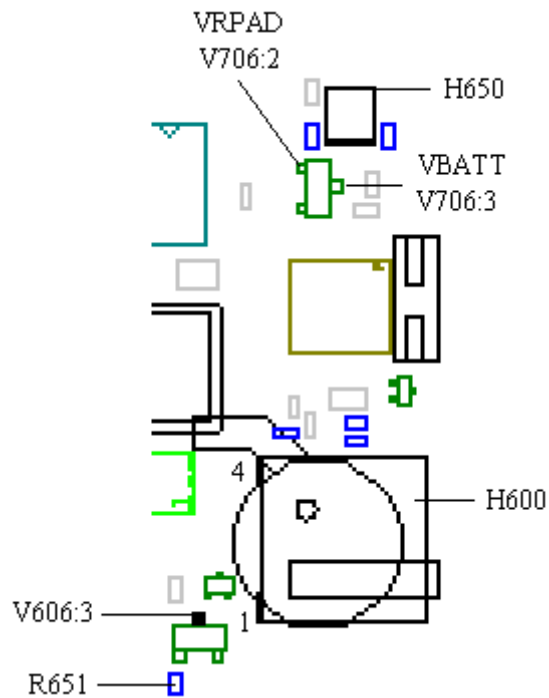
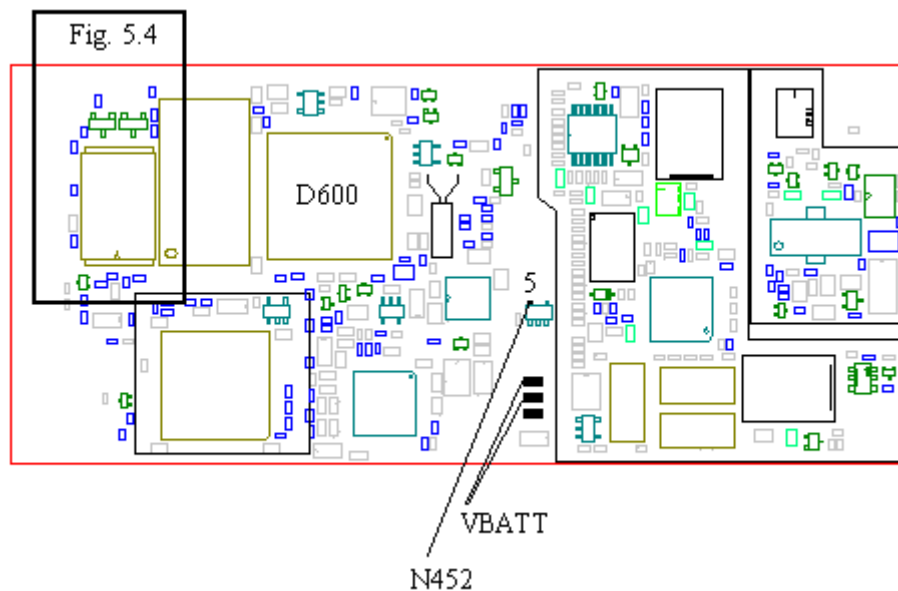

Fig. 5.2
Fig. 5.3
Make sure the solderings at the buzzer, H600 (class A, fig. 5.2), are correct.
Measure the voltage at H600 pad 4 (~3.4V, fig. 5.2).
- If the voltage at H600 pad 4 is missing, measure the voltage at VRPAD (3.8V) at V706 pin 2 (class A, fig. 5.2).
- If the voltage is missing, check if VRPAD is at N452 pin 5 (fig. 5.3).
- If VRPAD at V706 pin 2 is correct, measure the resistance from VBATT to V706 pin 3 (~0 ohms, fig. 5.3 and 5.2).
Measure the resistance from H600 pad 1 to V606 pin 3 (~0 ohms, fig. 5.2).
- If it's correct, check the soldering at D600 pin 91 (fig. 5.3). If the soldering is correct, replace R651 (class A, fig. 5.3) and V606 (class A, fig. 5.2). If that doesn't help, replace D600 (class B, fig. 5.3).
- If the voltage is missing, check the soldering at D600 pin 92 (fig. 5.3). If it's correct, replace D600 (class B).
Make sure the double LED, H650 (class A, fig. 5.2), isn't incorrectly soldered. If the solderings are correct, give the board power and start it up.
- If the voltage is missing, measure the VRPAD voltage (3.8V) at V706 pin 2 (class A, fig. 5.2).
- If it's correct, measure the resistance from N452 pin5 to V706 pin 2 (~0 ohms, figs 5.3 and 5.2). If it's too high there's a foil damage and the phone is to be discarded.
- If there is VRPAD voltage at V706 pin 2 and it's correct, measure the resistance from VBATT to V706 pin 3 (~0 ohms, figs 5.3 and 5.29).
Give the board power and start it up. Measure the VRPAD voltage (3.8V) at V706 pin 2 (class A, fig. 5.2).
- If the voltage at V706 pin 2 is missing, check if there's VRPAD at N452 pin 5 (fig. 5.3).
- If it's correct, measure the resistance from N452 pin 5 to V706 pin 2 (~0 ohms, figs 5.3 and 5.2).